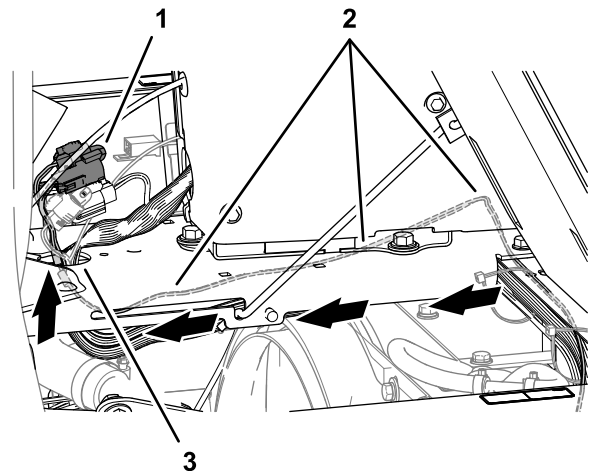

Figure 36
7. Route the ISO-CAN bus harness under the console base and along the machine wire harness (Figure 36).
8. Route the 3-pin connector (labeled To TORO CANBUS) and 3-socket connector (labeled CAN PORT A) of the ISO-CAN bus harness through the hole in the console base (Figure 36).